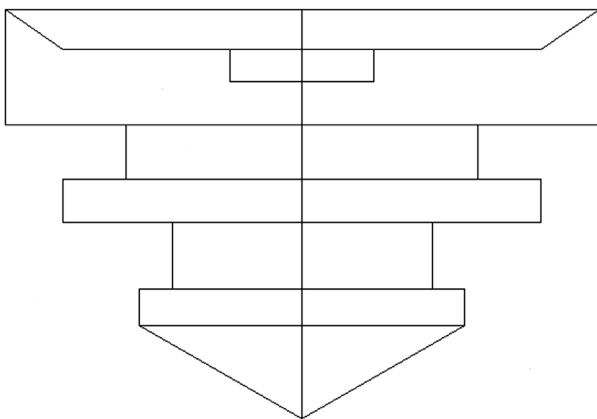

FIGURE 24.3 Revolved profile in 2D wireframe.
Step 5. Here, you can ask for a full 360° revolution by just pressing Enter, but instead type in 270, so we can see a cutout of the part. If you are in 3D, you can also just trace out the revolution angle with movements of your mouse. For now though, you see a 2D revolved surface, as in Fig. 24.3.